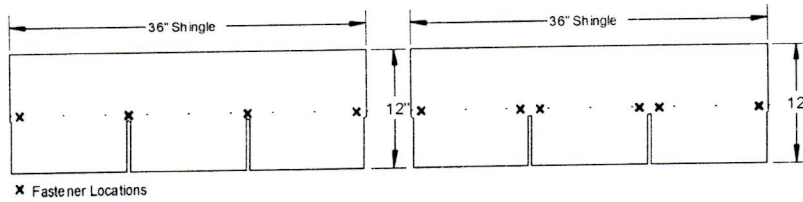

Figure 45. Shingle fastener locations for Wind Zone I (left) and Wind Zones II and III (right).
2. **Install shingles.** If shingles have been left off at the ridge line for site installation, install them now using 1" x 1" x 16 ga galvanized staples or 12ga 1-1/4" long, 3/8" diameter head roof nails. For Wind Zone I, fasten at 5/8 inch above each tab cutout slot and one at each end of the shingle one inch in from the edge (four fasteners for a three-tab shingle) (**Figure 45**). For Wind Zones II and III, use two fasteners 5/8 inch above and on either side of the tab slots and one at each end of the shingle one inch in from the edge (six fasteners for a three-tab shingle). Do not fasten through the shingle tar line.